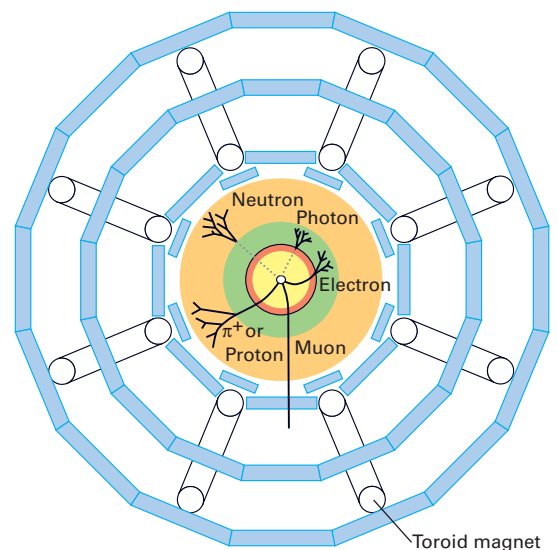

Figure 3 Cross-section of the ATLAS detector showing particle tracks
- Find out more about the parts of the ATLAS detector shown in Figure 3 at http://hands-on-cern.physto.se/ani/acc_lhc_atlas/endview.swf
uncharged particles, as well as photons of electromagnetic radiation (Figure 3). As the spray of particles and radiation passes through the detectors, it is logged electronically and the path of each particle or photon is recorded. The length and curvature of each track reveals the charge and energy of the particle which produced it, and from this the researchers can deduce just what happened in the collision.